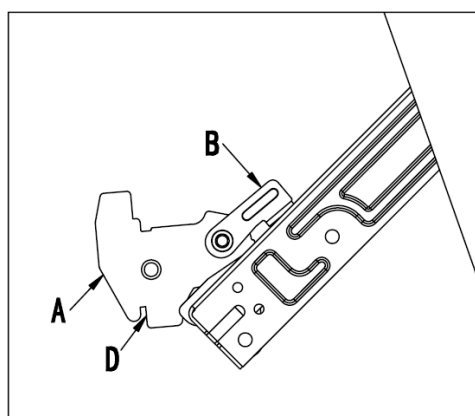

Fig. 1
- Open the door completely and lift the 2 levers “B” (fig.1);